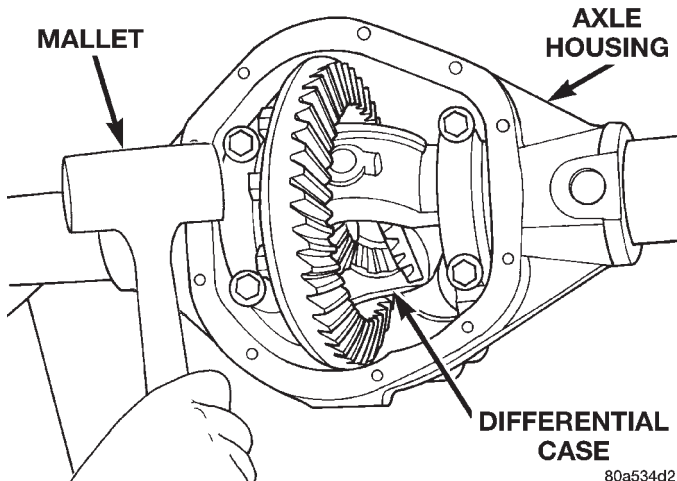
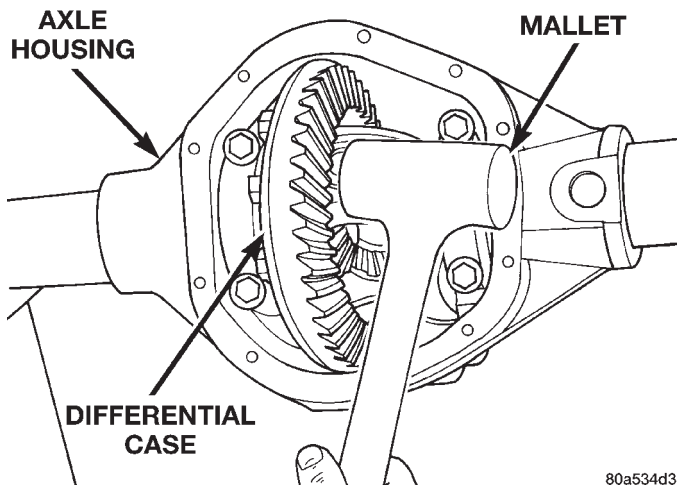
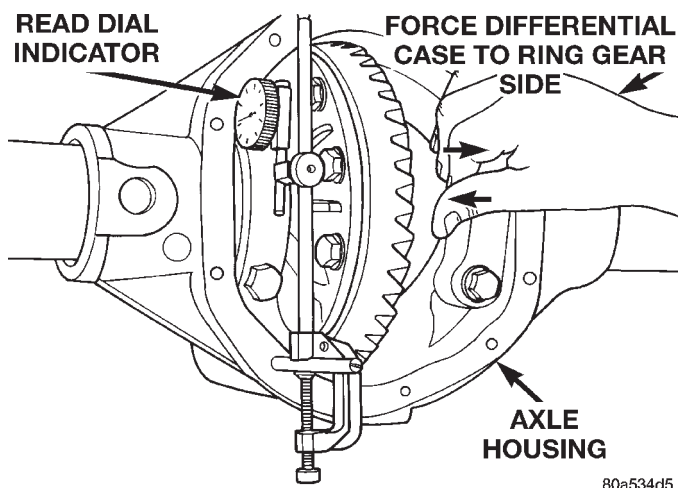

Fig. 52 Seat Pinion Gear Side Differential Dummy Side Bearing
Fig. 53 Seat Ring Gear Side Differential Dummy Side Bearing
Fig. 56 Hold Differential Case and Read Dial Indicator
- (7) Using a dead-blow type mallet, seat the differential dummy bearings to each side of the axle housing (Fig. 52) and (Fig. 53).
(12) Push and hold differential case to ring gear side of the axle housing (Fig. 56).
(13) Record dial indicator reading (Fig. 56).
(14) Add 0.008 in. (0.2 mm) to the zero end play total. This new total represents the thickness of shims to compress, or preload the new bearings when the differential is installed.
(15) Rotate dial indicator out of the way on the guide stud.
(16) Remove differential case and dummy bearings from axle housing.
(17) Install the pinion gear in axle housing. Install the pinion yoke and establish the correct pinion rotating torque.
(18) Install differential case and dummy bearings D-348 in axle housing (without shims), install bearing caps and tighten bolts snug.
(19) Seat ring gear side dummy bearing (Fig. 53).